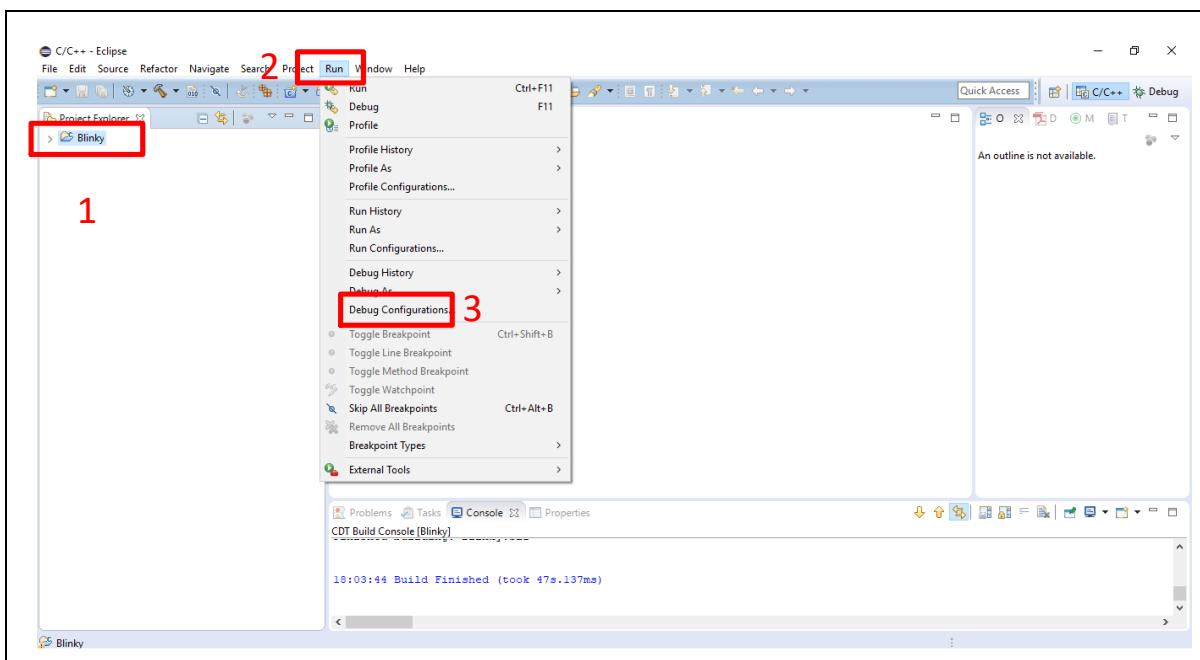
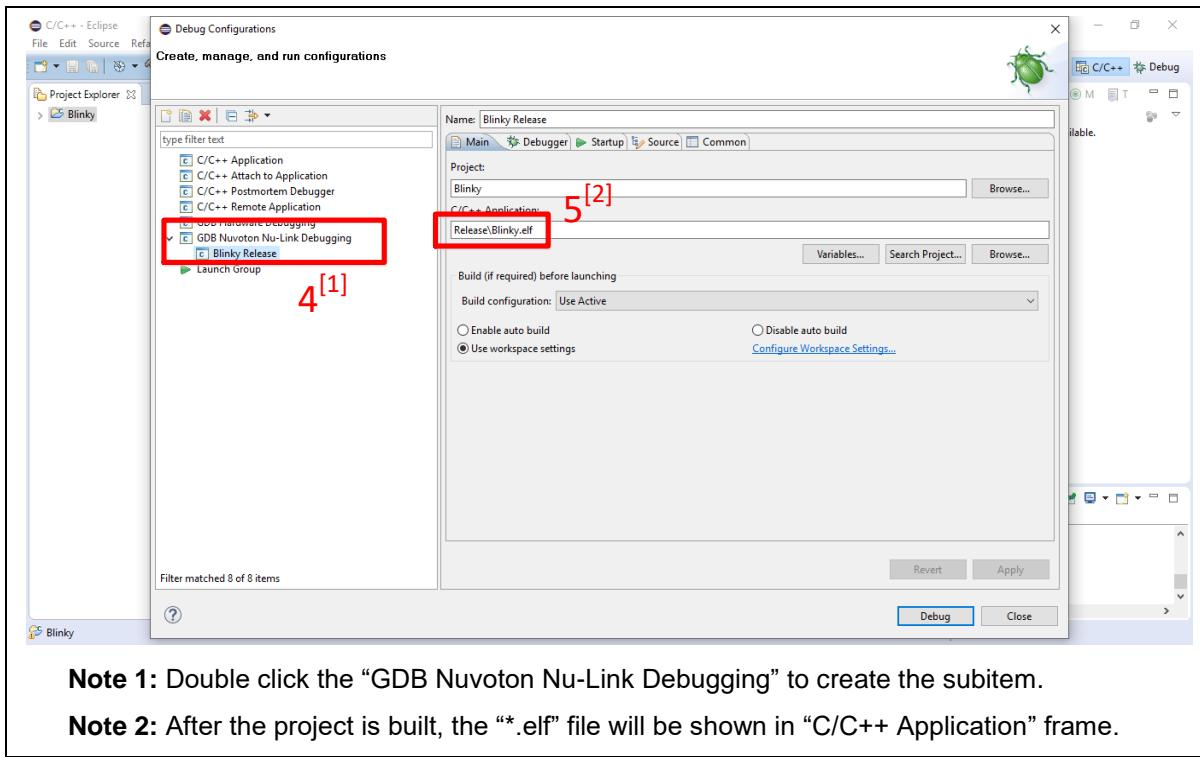

Figure 4-22 Open Debug Configuration
Figure 4-23 Main Tab Configuration
5. After the project is built, click the “Blinky” project and set the “Debug Configuration” as shown in Figure 4-22. Follow the settings presented in Figure 4-23, Figure 4-24 and Figure 4-25 to enter debug mode.